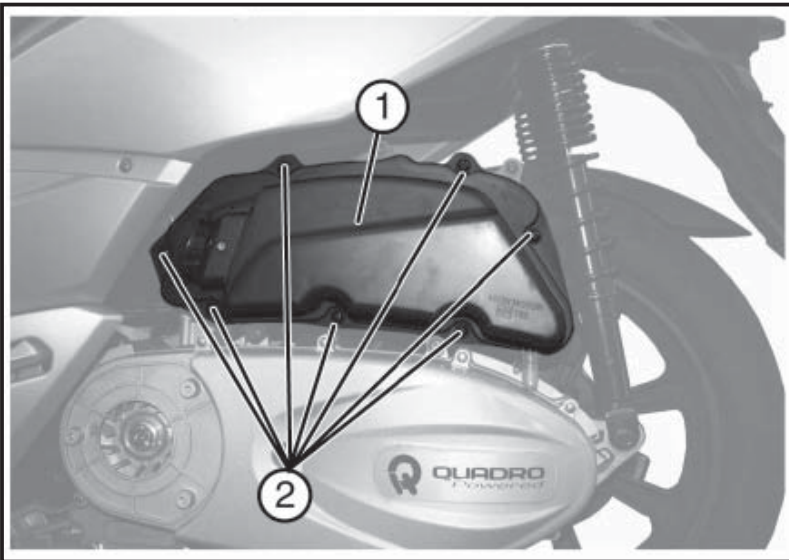

Fig. 01
- Remove the seven screws «2 - Fig. 01», which the airbox cover in place.